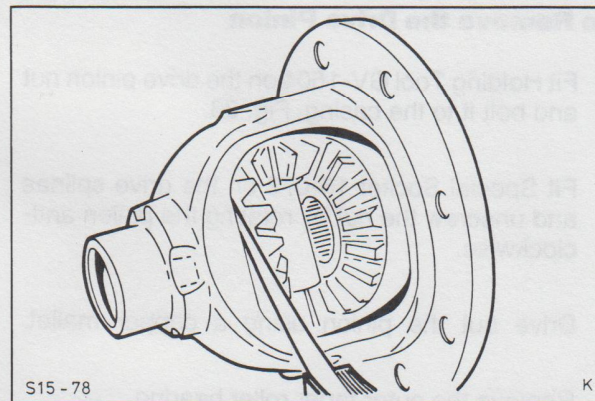

Fig. 36. Measure clearance of side gears.
11. Measure the clearance of each of the side gears using a feeler gauge, Fig. 36.